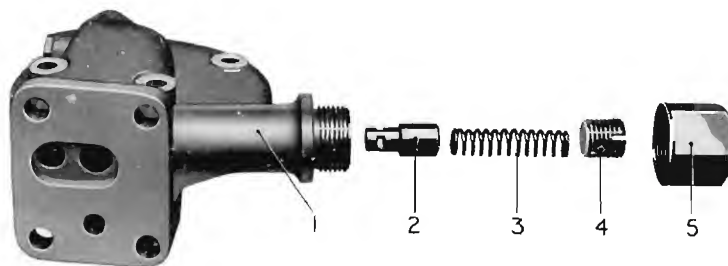

Fig. 6.
The relief valve can be removed for cleaning as shown in Fig. 6, after taking off the cap (5) screw the adjusting screw (4) right out and withdraw the spring (3) and valve (2).